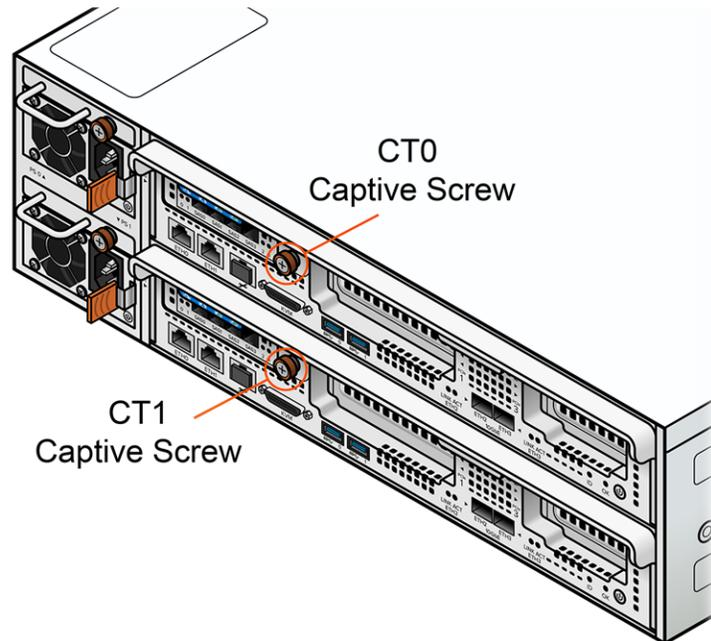

Figure 11-7. Loosening the Captive Screw
1. Loosen the orange captive screw on the rear panel of both controllers. See Figure 11-7